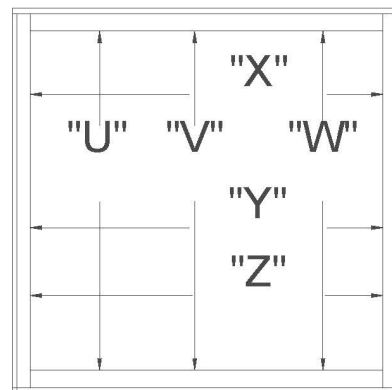

Figure 5
- **Important:** Frame head and track must be level, square and plumb at frame jambs. Measure at head, sill and midpoint horizontally to be certain that frame is not bowed, also measure from top to bottom across the entire frame from left to right to make sure there are no rises in the sill or dips in the header. Rises in the sill or dips in the header could prevent the panels from being installed. Do not over tighten frame installation screws as this could warp the frame. (See Figure 5)